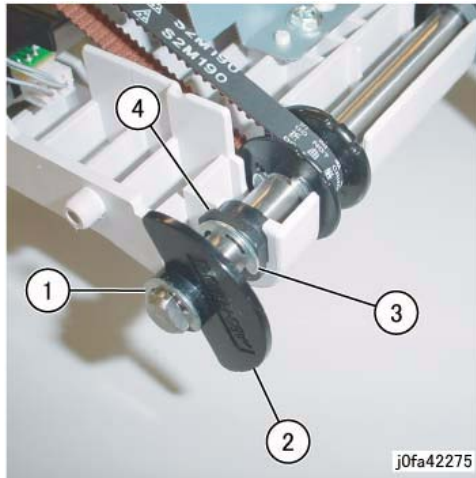

Figure 4 Removing the Actuator and Bearing
7. Remove the Actuator and the Bearing (Figure 4):